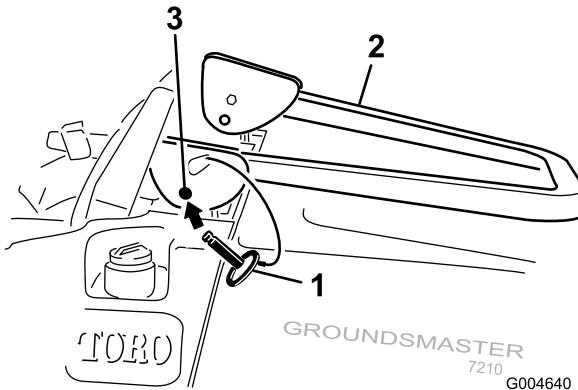

Figure 12
- Lower the roll bar to the down position (Figure 12).